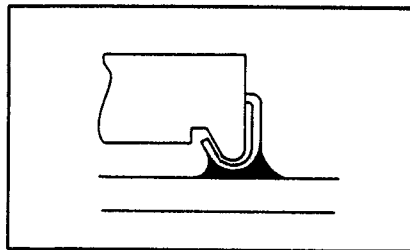

Figure 4-20. PLCC Soldering
- o On a PLCC device the solder should fill both outside rounded areas of the "J" lead with a smooth, concave contour. See Figure 4-20.